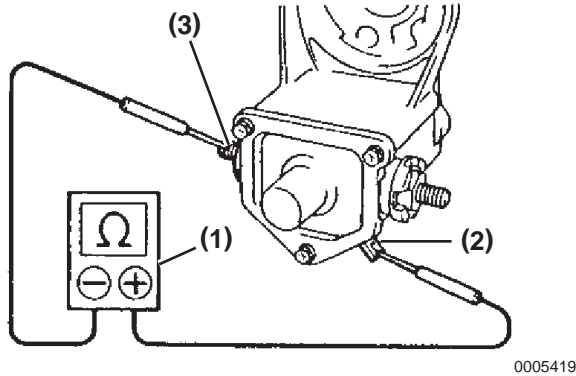

Figure 10-31
1. Using an ohmmeter (**Figure 10-31, (1)**) check the continuity of the pull-in coil circuit between terminals 50 (**Figure 10-31, (2)**) and C (**Figure 10-31, (3)**). If no electrical continuity is measured, replace the magnetic switch.